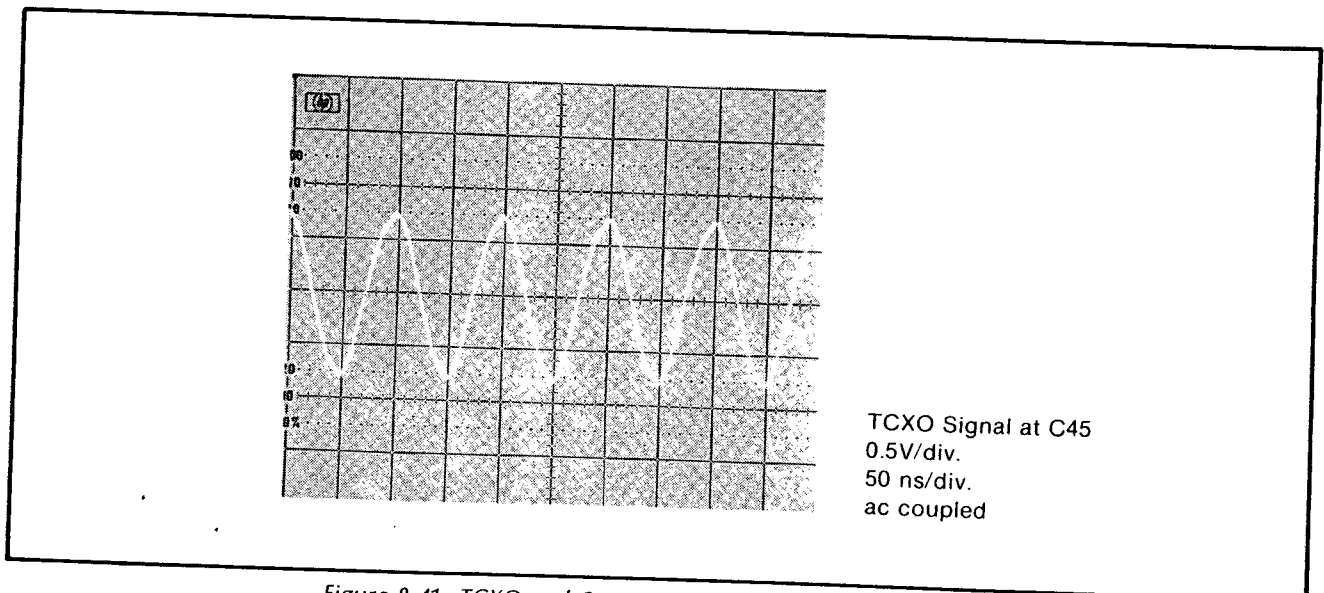

Figure 8-41. TCXO and Option 004 Oven Oscillator Waveform
3. Check for oscillator output at J2 on rear panel with oscilloscope probe. (Correct waveform for the TCXO is shown in Figure 8-41.)
3. Check for oscillator output at J2 on rear panel with oscilloscope probe. (Correct waveform for the oven oscillator is shown in Figure 8-41.)